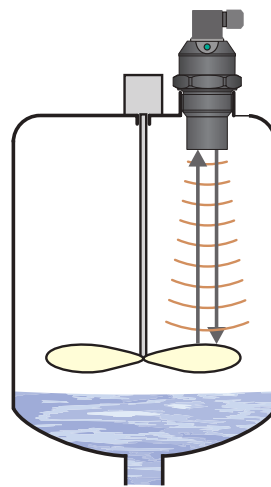

Fig. 12: False reflection from mixer blades
- q) The device should not be installed in places with the risk of false reflections of the ultrasonic signal from the mixer's blades (Fig. 12).